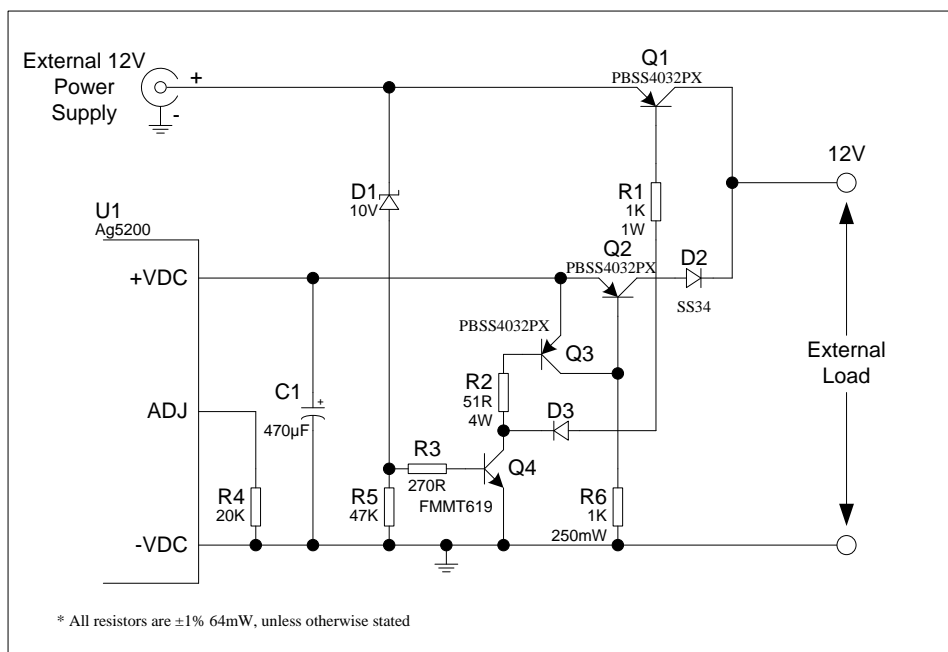

Figure 1: External Supply Gating Circuit
This application note shows how to gate the output of an Ag5200 Powered Device (PD) module and an external power supply; with the external supply having priority (see Figure 1).